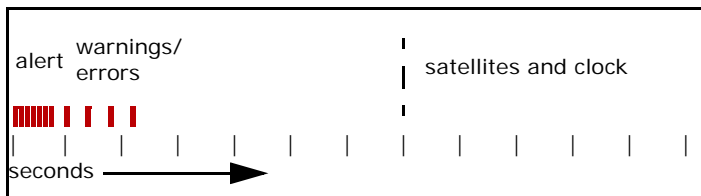

Fig. 2-25: Pattern of flashes indicating errors and warnings.
- If an abnormal condition exists, the LED will flicker rapidly for 350ms as an alert, and will then flash from one to seven times, 50ms on, 350ms off (see Fig. 2-25). Table 2-1 explains the meaning of the number of flashes.